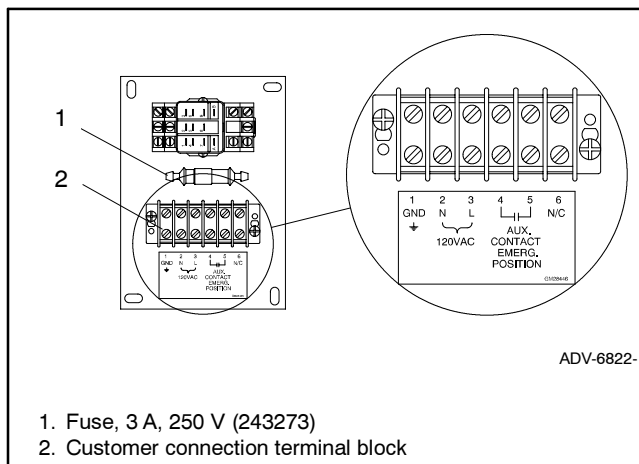

Figure 3 Customer Connections (inside the box)
- 3.3 Open the alarm box and locate the customer connection terminal strip shown in Figure 3. Use #12 AWG to #18 AWG wire (not provided) for the customer connections. Route the 120 VAC power leads and the signal connection leads in separate conduit.